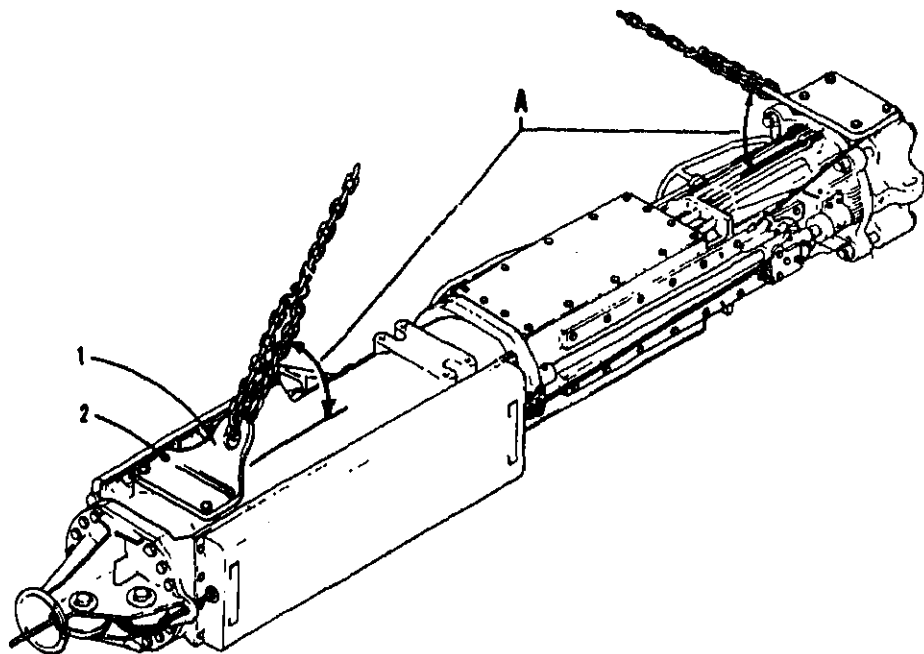

FIG. 9-2
The use of handling brackets (See Tools) is recommended with lifting chains attached to pick up Hammer at a 45° angle as shown in Fig. 9-2. Lay Hammer down on blocks on the guide angle pads. Handling the Hammer in this manner will insure against damage to fuel and lube system, fuel and lube tank, bounce chamber tank and other vital Hammer parts.
1. Get Hammer on job on cribbing in horizontal position. See Fig. 9-2 for handling Hammer from horizontal position.